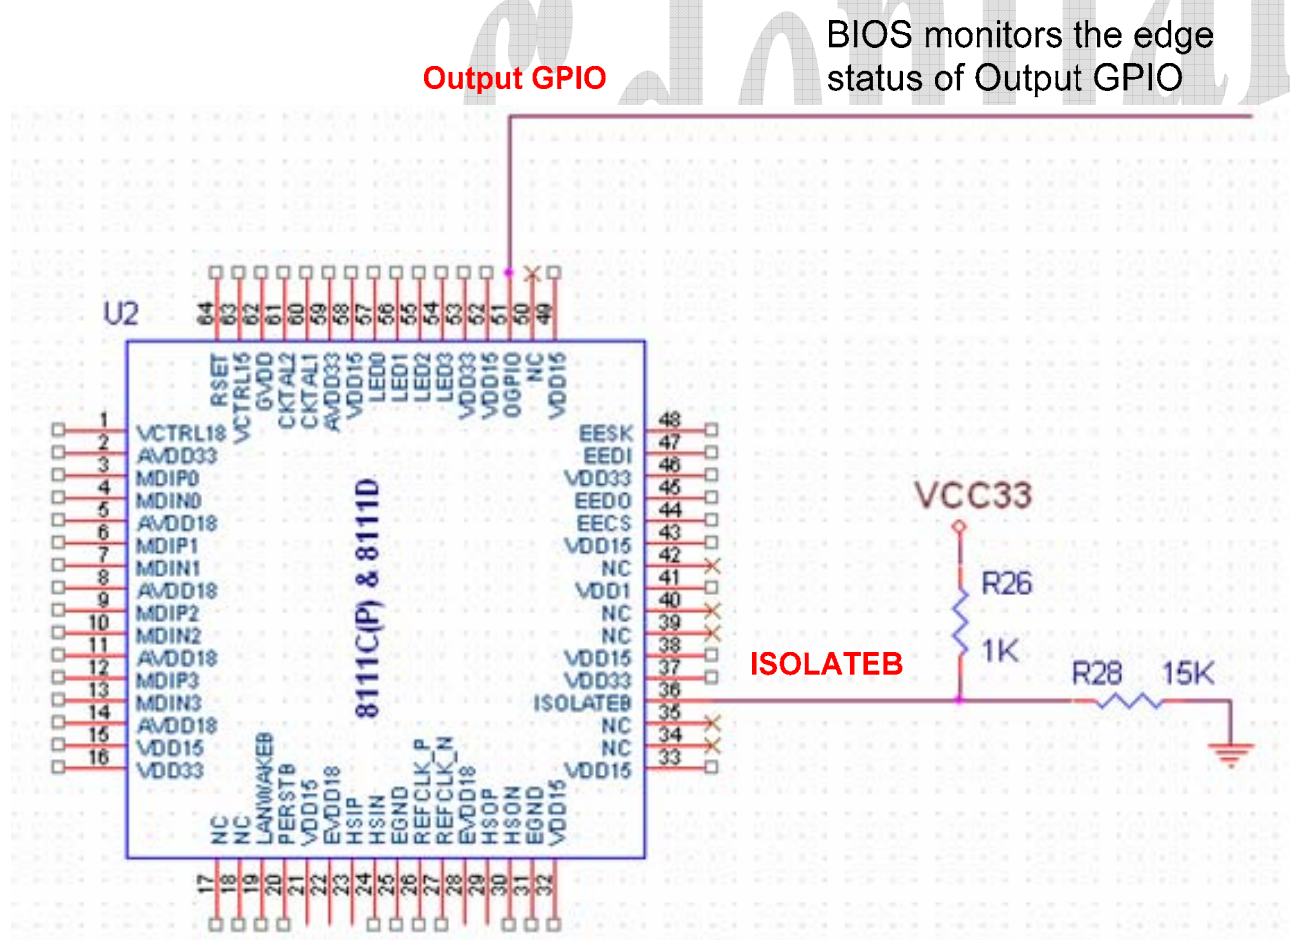
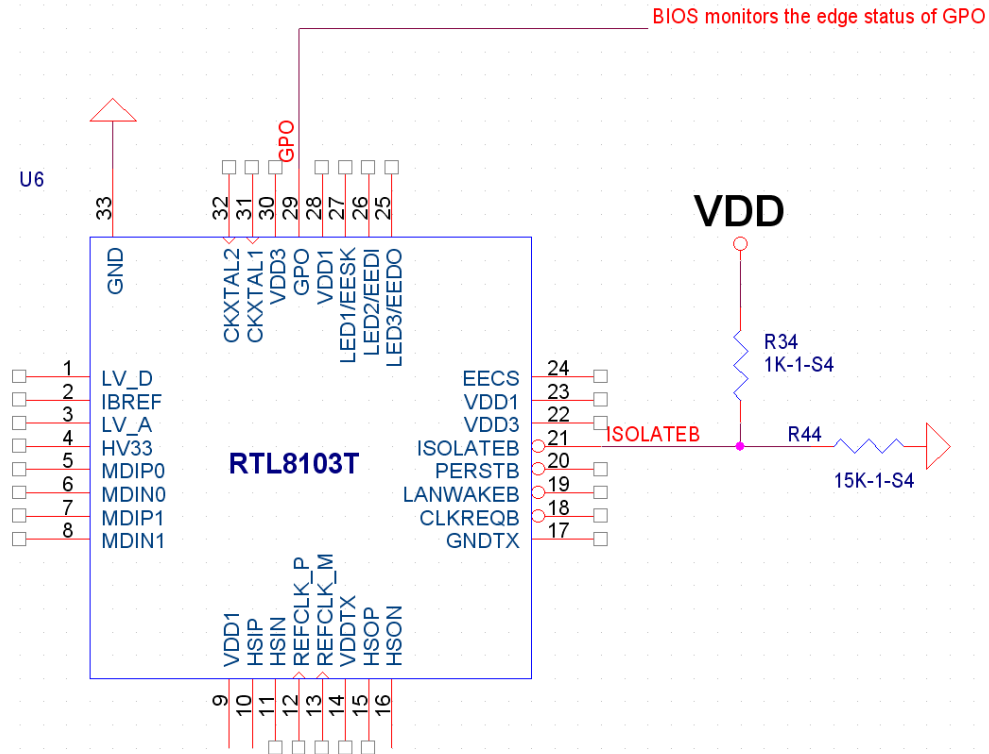

Figure 1. RTL8111C(P) & RTL8111D Output GPIO and ISOLATEB Circuit (64-Pin)
Figure 4. RTL8103T GPO and ISOLATEB Circuit (32-Pin)
- When a cable is unplugged, the output GPIO will go from high to low. The BIOS must set configuration space offset 0x44 to 03h first (the Ethernet Controller enters D3 state), cut off VCC33 (see Figure 1 to Figure 4), and ask the local machine's OS to run a Hardware Scan, which will then remove the Ethernet Controller.
Step 4. Cut-off VCC33 (see Figure 1 to Figure 4).